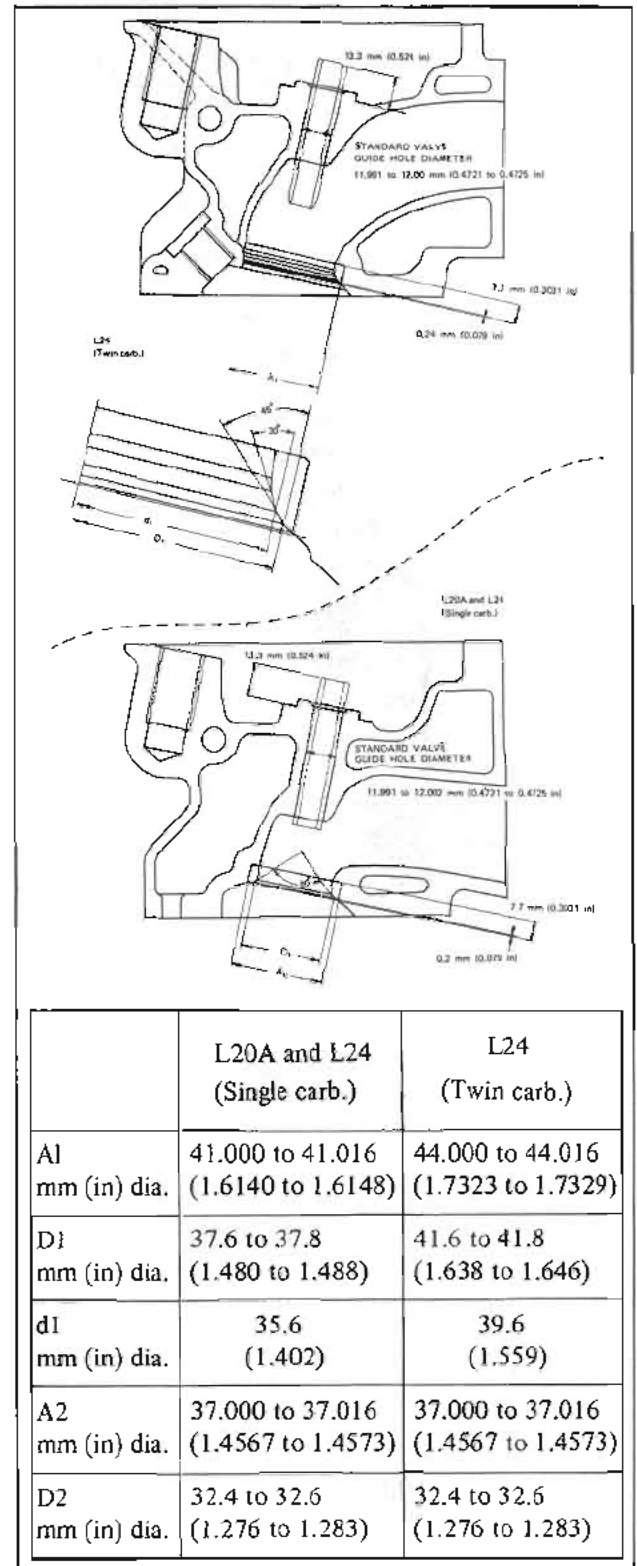

Fig. EM-39 Valve guide and valve seat insert
6. The valve seats newly fitted should be cut or ground at the specified dimensions as shown in Figure EM-39.